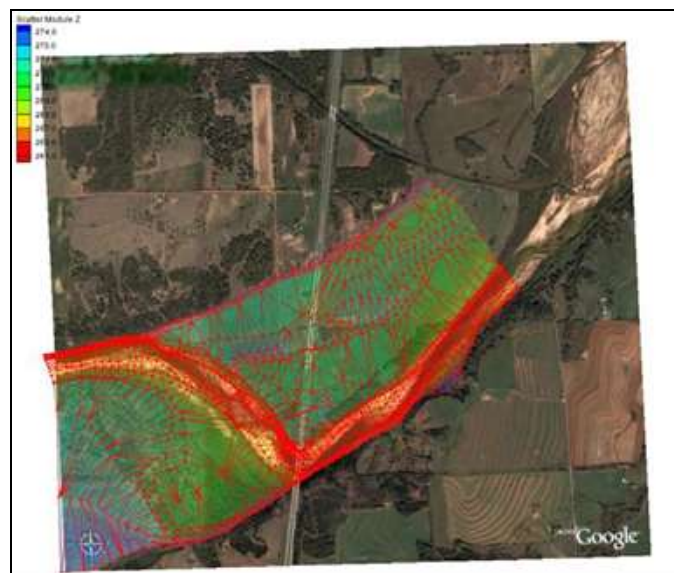

Figure 12 TIN with background image
7. Select the *Contours* tabs and set the *Transparency* to “70”%. Click **OK** to exit the *Display Options* dialog. The graphics window should look like Figure 12.